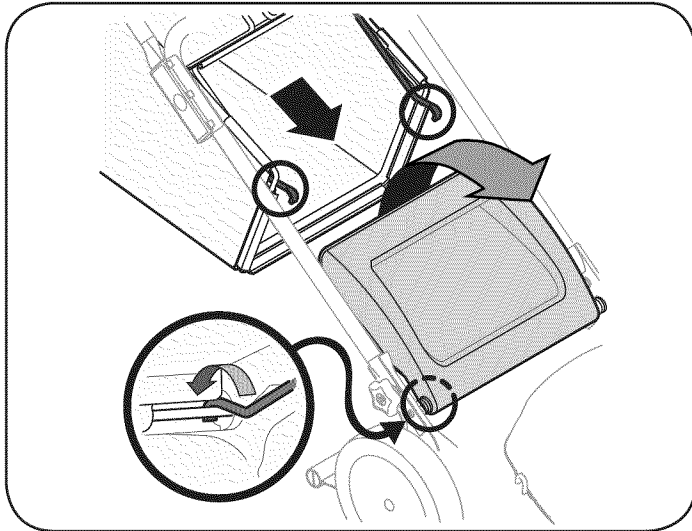

Figure 6
- c. Place grass catcher on the pivot rod. Let go of discharge door so that it rests on the grass catcher. See Figure 6.